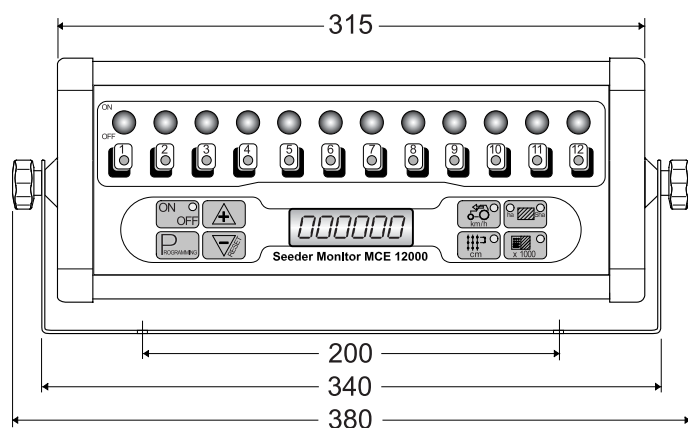

fig. 4
5.1 HOW TO INSTALL THE SYSTEM (Fig. 4)